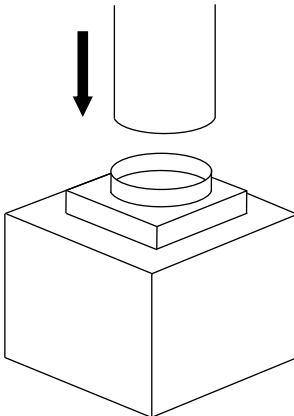

Fig 13
3. Install the ducting work up to the air inlet of the motor (Fig 13).